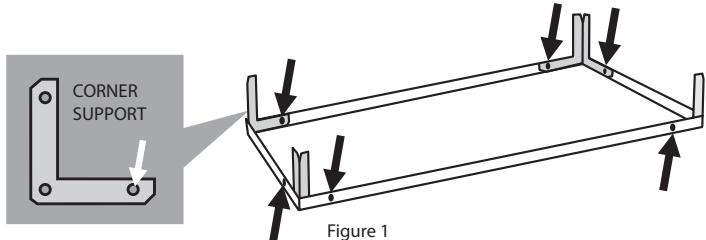

Figure 1
1. Take one shelf and attach six corner supports onto its bottom side. (This shelf will be used in step 5.) See figure 1.